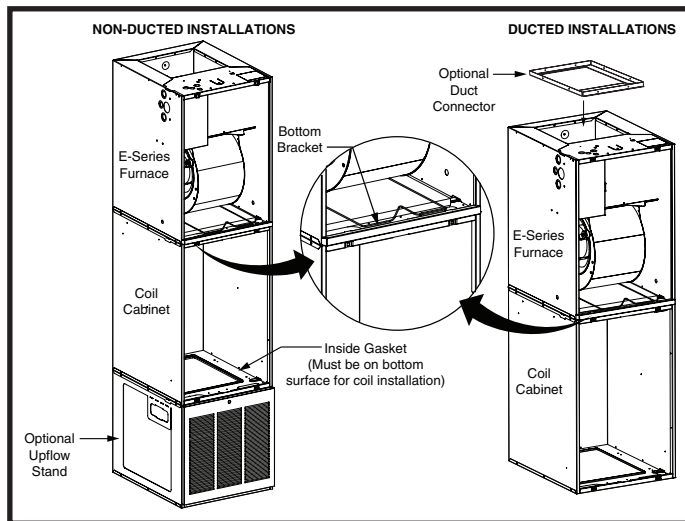

Figure 2. Upflow Installations
2. Place coil cabinet on top of the upflow stand and align all 4 sides. **NOTE:** Make sure the inside gasket surface is on the bottom, the gasket on the outside of the cabinet remains intact, and airflow passage between the upflow stand kit and coil cabinet are aligned and unrestricted. See figure 2.
9. Install the bottom bracket (white painted) by placing the tabs over bottom edge of the furnace as shown in Figure 2.
7. Install the bottom bracket (white painted) by placing the tabs over bottom edge of the furnace as shown in Figure 2. **NOTE:** Make sure the sides and bottom of the bracket are flush with the sides and bottom of the furnace cabinet.